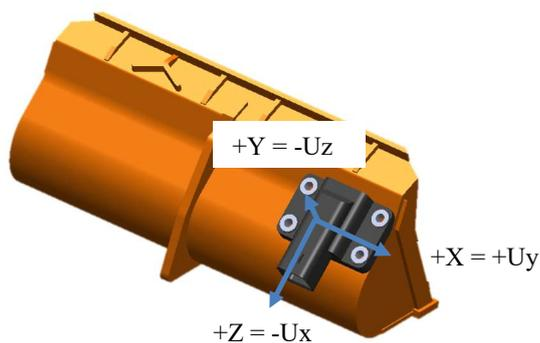

Figure 4: Loader Bucket Mounting Application
**Example 3:** Bucket Orientation Monitoring with mounting as depicted in Figure 4